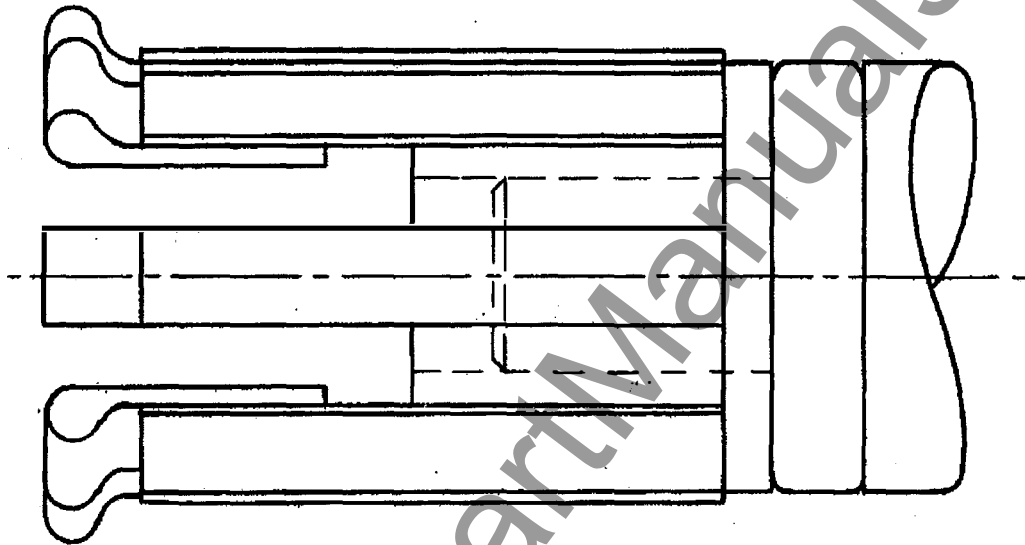

FIG. 8A
*Top end of bushing stud "Threaded" as shown in Figure 8A.